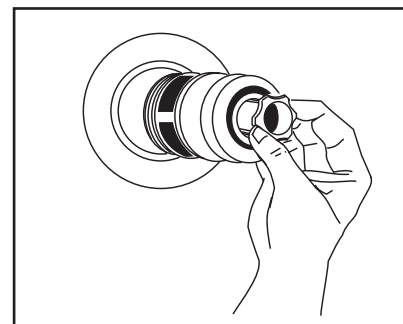

FIGURE 16
b. The Jet Escutcheon may be removed by grasping it and pulling it toward you. (See Figure 16)
c. The Jets may be removed by grasping the jet body and turning counter-clockwise to remove. (See Figure 16)